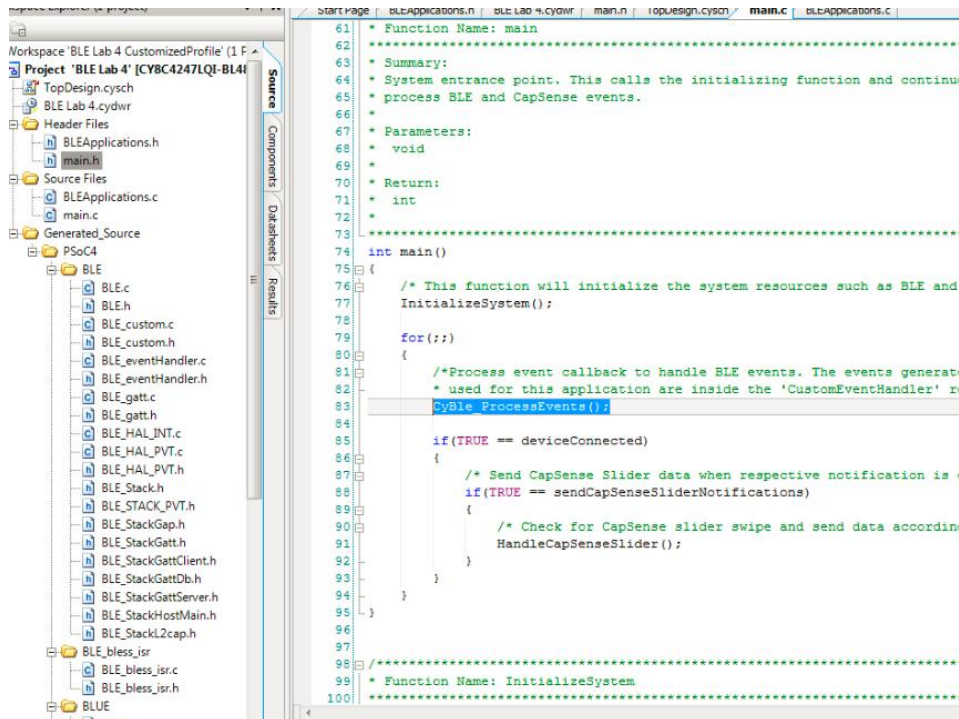

Figure 16. Main program
- **Discover all Attributes** and then scroll down the Attribute list to the RGB LED Characteristic (it has the UUID 0xCBB1). See Figure 16,17